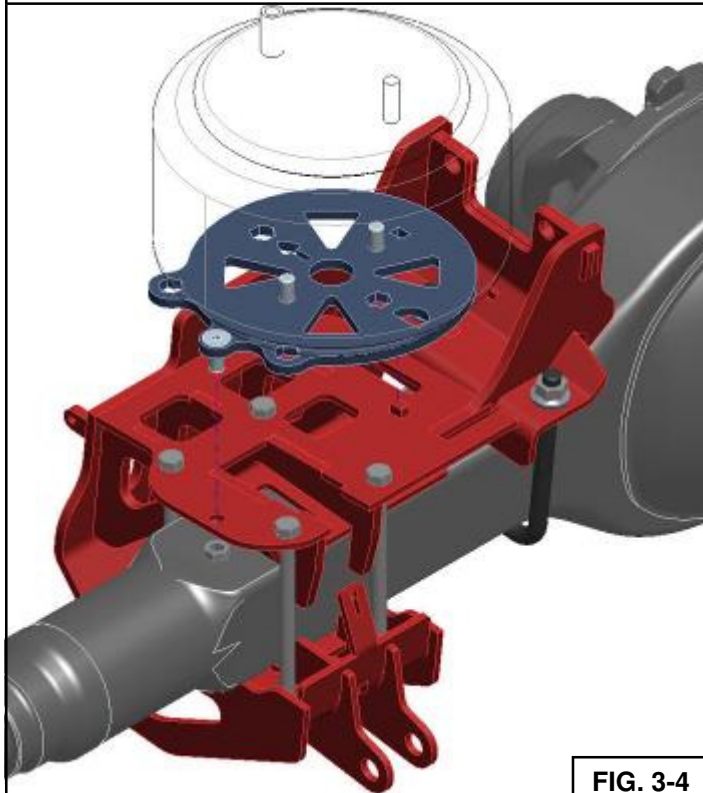

FIG. 3-4
4. Attach the ADAPTER PLATE to the lower piston of the AIRSPRING using (2) 1/2 X 1 UNC FLATHEAD SCREWS. Make sure orientation matches that shown in Fig. 3-4. **NOTE: The Bottom Piston of the Air Spring may need to be rotated to fit the orientation shown. In order to rotate the Piston, the bolt holding the piston to the spring must be loosened. Tighten after complete.** Torque bolt and/or screws. See Table 12-1.
5. Attach AIR SPRING ADAPTER PLATE to UPPER AXLE BRACKET by setting it on top of the bracket and aligning the protruding tab with the square notch cutout on the AIR SPRING ADAPTER PLATE. The Four Hex shaped holes in the ADAPTER PLATE need to fit over the four bolt heads connecting the Upper and Lower Axle Brackets. These bolts may need to be oriented for proper fit. The countersunk hole will also align with a hole on the UPPER AXLE BRACKET. Fasten with (1) 1/2 X 1 1/4 UNC FLATHEAD SCREW and (1) 1/2 UNC HEX NUT. Torque later, See Fig. 3-4